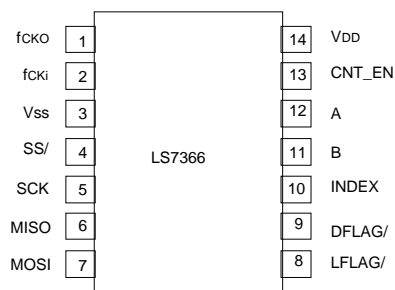

FIGURE 1
- 8-bit instruction register (IR).
- See Figure 1-